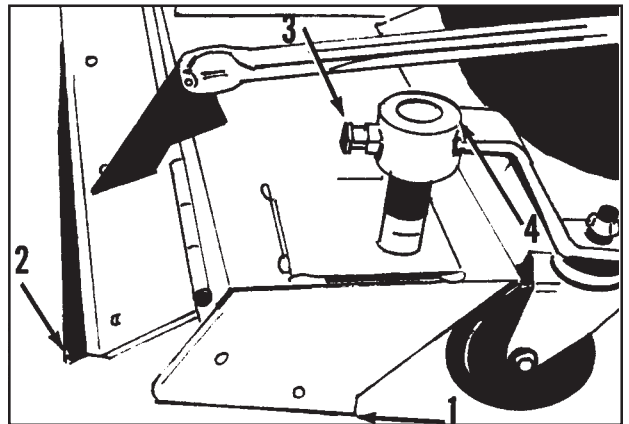

Figure 6
See figure 6. The scraper (1) and the shield (2) can be adjusted to three positions. When the vacuum is being used on an uneven outdoor surface, do the following:
1. Pull the pin (3). See figure 6.
2. Move the bracket support to the highest setting on the housing shaft (4). See figure 6.